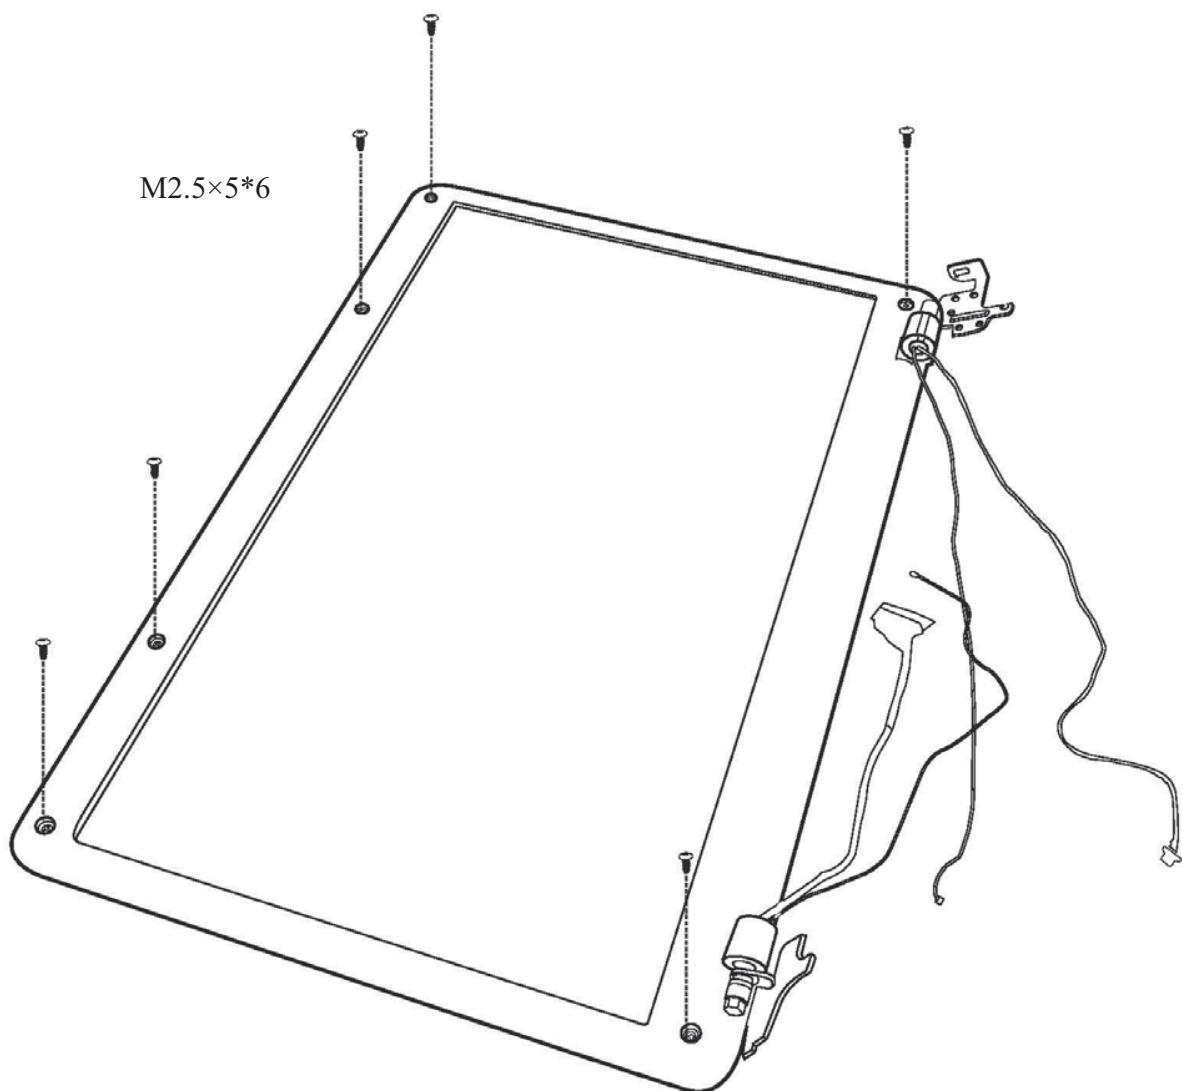

Figure 4-32 Removing the LCD Bezel
Remove the LCD bezel according to the following procedures and Figure 4-32.
2. Remove the six M2.5x5 screws as shown in Figure 4-32.